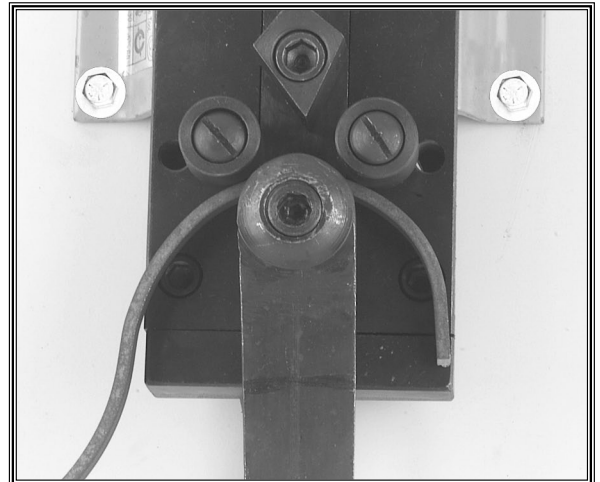

Figure 14. Guide rollers positioned in the inner location for smaller radii.
- To bend metal for smaller radii, use the inner set of holes (**Figure 14**).